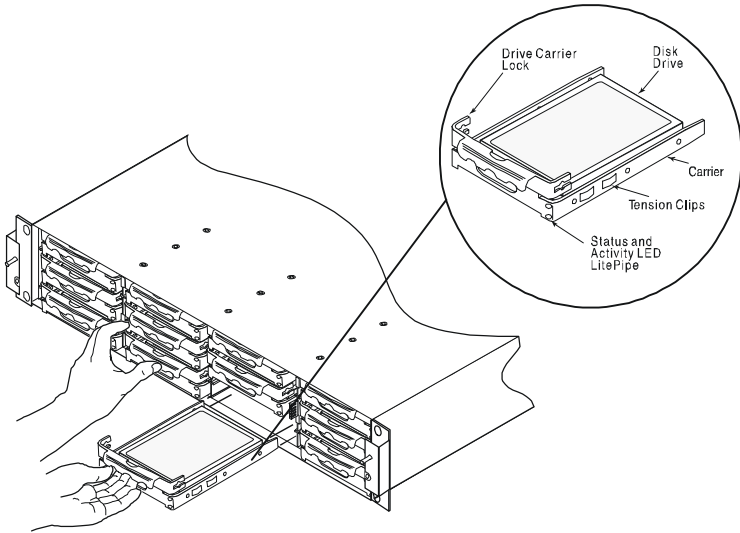

Figure 5-8 Removing a Disk Drive
- 2 Slide the drive carrier over the disk drive so that the handle of the drive carrier curves down and is facing you. See Figure 5-8.
- 3 Grasp the drive carrier handle and pull the disk drive from the storage subsystem, as shown in Figure 5-8.